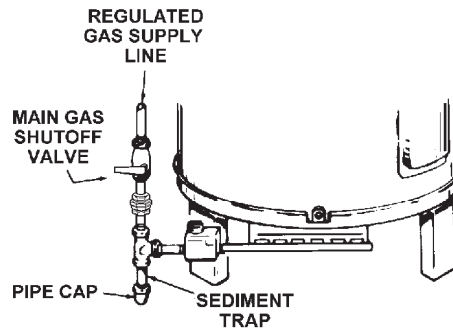

FIGURE 21.
To trap any dirt or foreign material in the gas supply line, a sediment trap must be incorporated in the piping (see Figure 21). The sediment trap must be readily accessible and not subject to freezing conditions. Install in accordance with recommendations of serving gas suppliers. Refer to the latest version of the National Fuel Gas Code.
- For test pressures exceeding 1/2 psi (3.45 kPa) disconnect the water heater and its Main Gas Shutoff Valve from the gas supply piping system during testing, see Figure 21. The gas supply line must be capped when disconnected from the water heater.